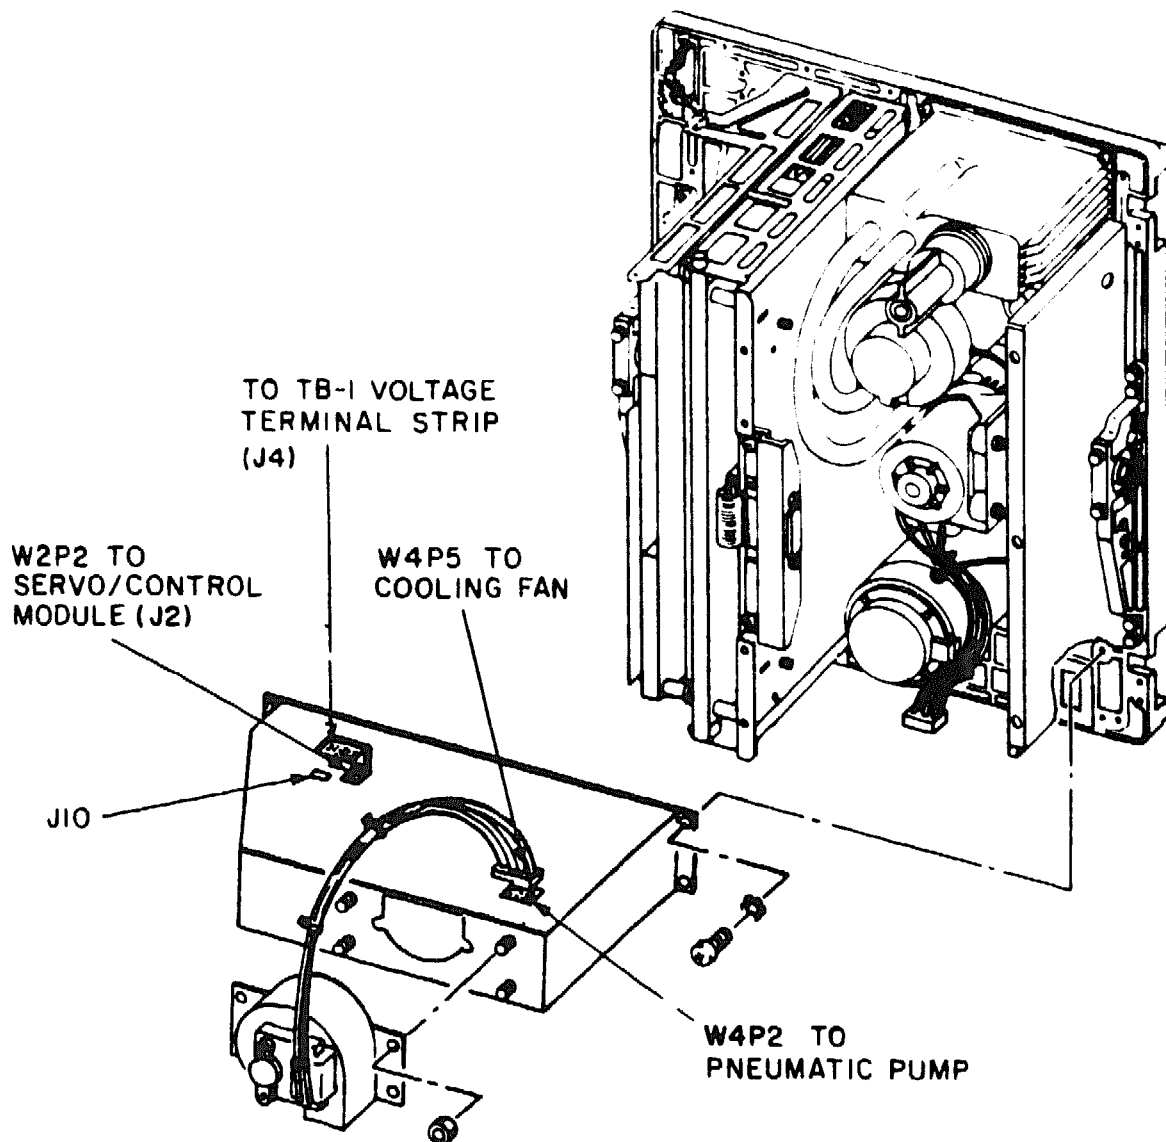

Figure 5-21. POWER SUPPLY CONNECTORS
4. Detach all connectors from power supply. See Figure 5-21.